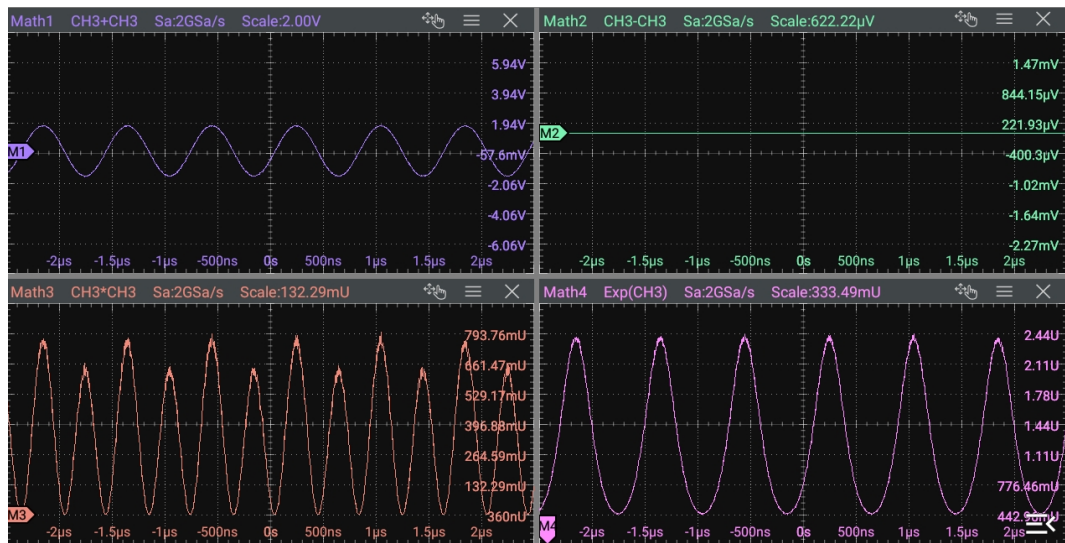

Figure 9.2 Operation Result Display Window
- Click or tap the Math1-Math4 label at the bottom of the screen, and the corresponding interface appears on the screen, as shown in *Figure 9.2*. Click or tap the label again, or the icon  at the upper-right corner of the window to enter the math operation menu.
In the **Math** menu, click or tap the ON/OFF tab for the **Operation** menu to show or hide the waveform display window of the operation results. By default, it is OFF. When set to sON, the figure as shown in *Figure 9.2* is displayed on the screen.